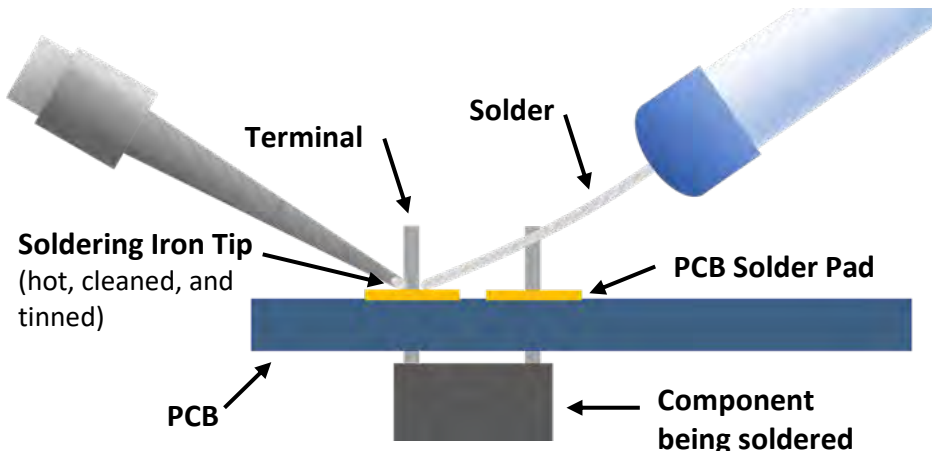

Figure 10
- ❑ From the opposite side of the terminal, hold the solder at a low angle to the solder pad and make sure it is touching the pad and terminal (not the soldering iron tip). Holding the solder at a low angle to the pad will prevent solder going through the hole and onto the other side of the board. (Figure 10)